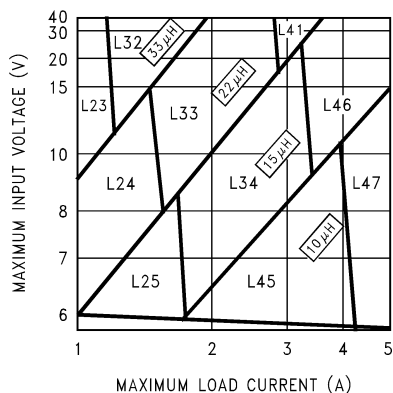
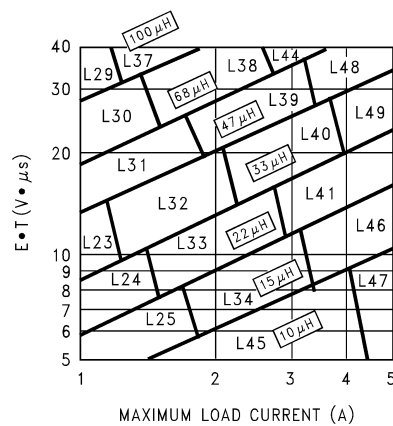

Figure 21. LM2678-3.3
Figure 24. LM2678-ADJ
Step 3: Determine the inductor required by using one of the four nomographs, Figure 21 through Figure 24. Table 1 provides a specific manufacturer and part number for the inductor.
Step 5: Determine an input capacitor from Table 6 for fixed output voltage applications. Use Table 3 to find the specific capacitor type. For adjustable output circuits select a capacitor from Table 3 with a sufficient working voltage (WV) rating greater than $V_{in\text{ max}}$, and an rms current rating greater than one-half the maximum load current (2 or more capacitors in parallel may be required).
Step 3: Use the nomograph for the 3.3V device, Figure 21. The intersection of the 16V horizontal line ($V_{in\text{ max}}$) and the 4A vertical line ($I_{load\text{ max}}$) indicates that L46, a 15 μH inductor, is required.
Step 3: To use the nomograph for the adjustable device, Figure 24, requires a calculation of the inductor Volt•microsecond constant ($E \cdot T$ expressed in $V \cdot \mu s$) from the following formula:
Using Figure 24, the intersection of $27V \cdot \mu s$ horizontally and the $3.5A$ vertical line ($I_{load} \max$) indicates that L48, a $47\mu H$ inductor, or L49, a $33\mu H$ inductor could be used. Either inductor will be suitable, but for this example selecting the larger inductance will result in lower ripple current.
When using the adjustable device in low voltage applications (less than $3V$ output), if the nomograph, Figure 24, selects an inductance of $22\mu H$ or less, Table 12 and Table 13 do not provide an output capacitor solution. With these conditions the number of output capacitors required for stable operation becomes impractical. It is recommended to use either a $33\mu H$ or $47\mu H$ inductor and the output capacitors from Table 12 and Table 13.